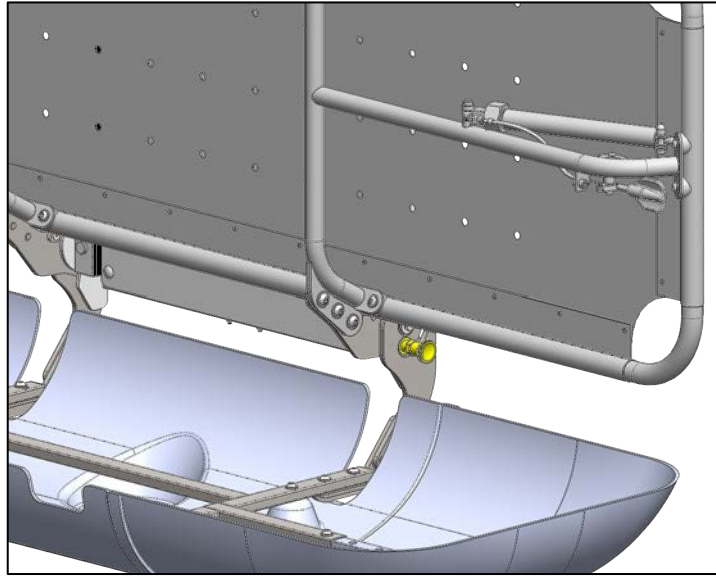

Fig.12
- Locate the plunger pin on the right-hand side of the back frame (highlighted in Fig.12).
- To move the stretcher and drip tray down together, locate the plunger pin on the right-hand side of the back frame (highlighted in Fig.12).
- Pull the head of the plunger pin on the right-hand side of the back frame (Fig.12) and with your other hand, start to lift the shower stretcher.